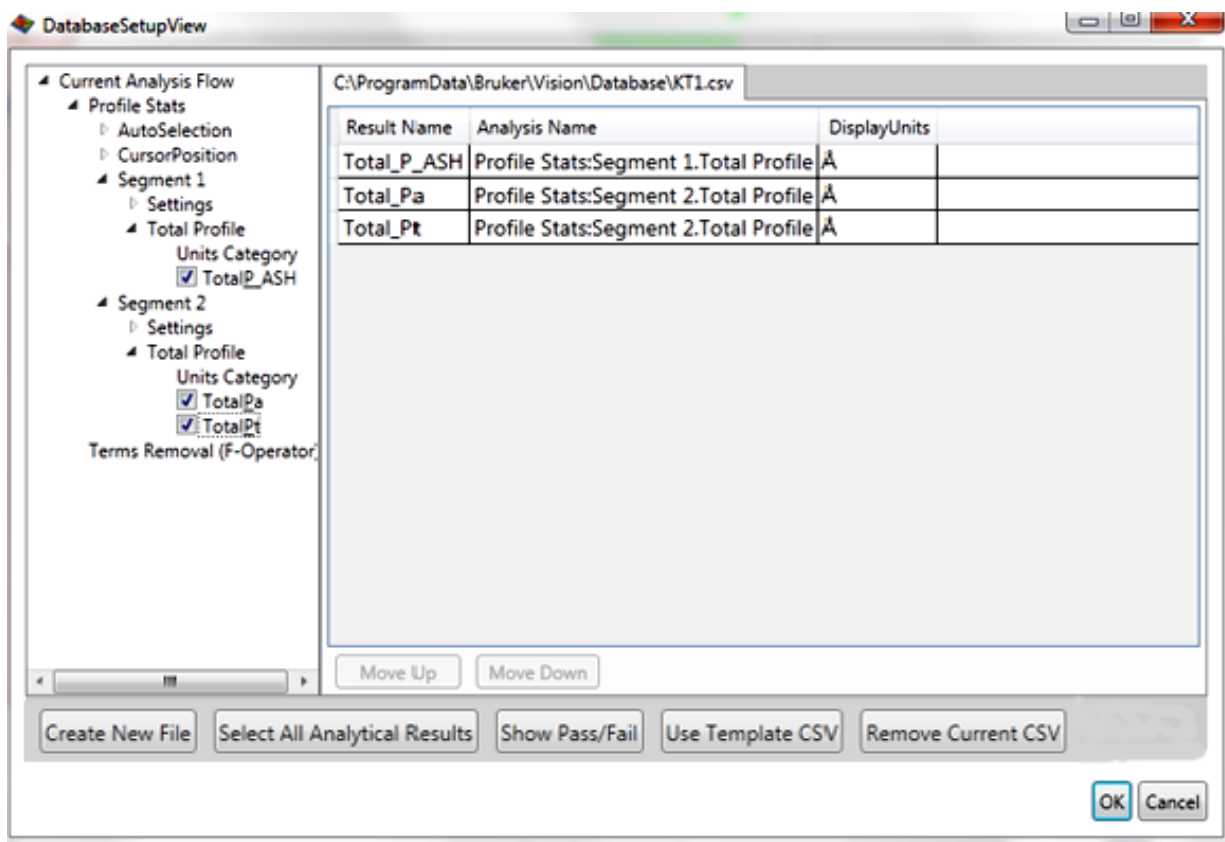

Figure 4-23: Database Setup View window
- 3 As shown in Figure 4-23, the **Database Setup View** window appears. The currently selected analysis flow is available from nested expandable lists in the upper right corner. A table to the left shows the parameters in the currently active database, whose path appears above the table.